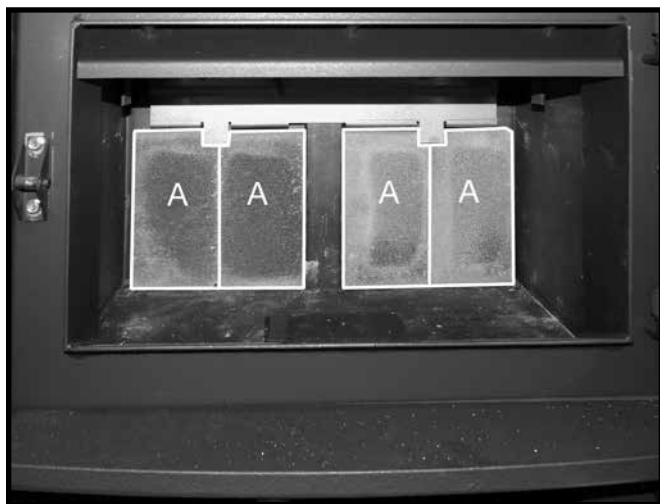

Figure 26: Remaining rear wall firebricks in place.
3. Repeat steps 1 & 2 for the placement of the other "A" firebricks on the rear wall (Figure 26).